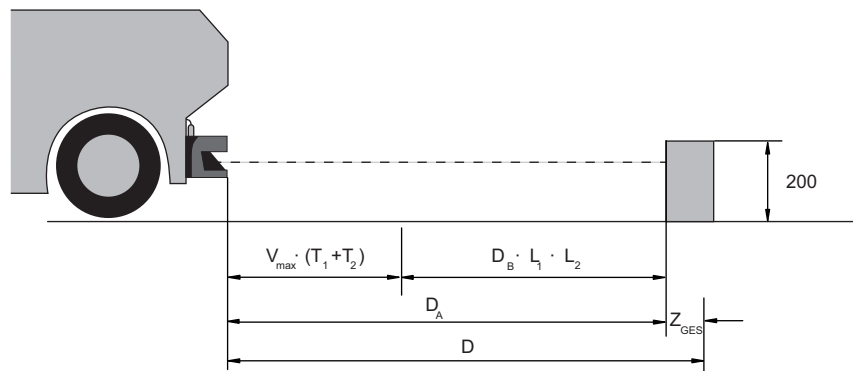

Figure 6.17: Mobile danger zone guarding, required minimum distance D calculation
- ↪ Set the vertical protective fields at a slight angle so that the lower protective field edges protrude over the vehicle width by the amount of the additional distances,  $Z_{SM}$ ,  $Z_F$  and  $Z_{REFL}$  where required (see figure 6.17).